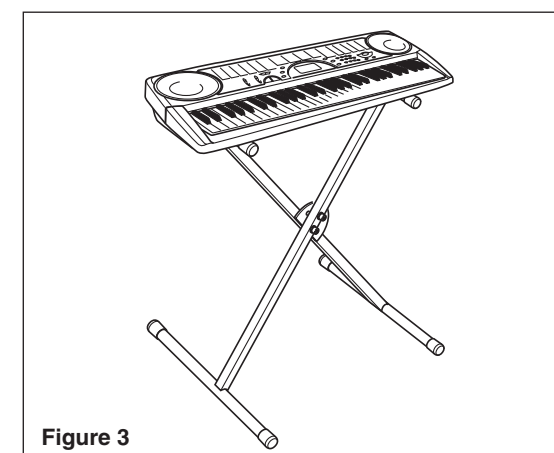

Figure 3
3. Place the instrument onto the stand (Figure 3).